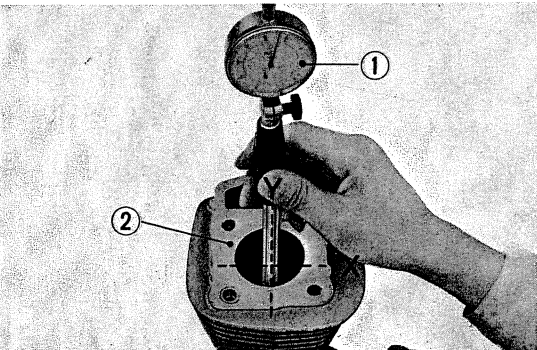

Fig. 38 Cylinder bore measurement
- 1) Inspect the condition of the cylinder bore. Measure diameter of the cylinder bore in both the X and Y directions and at the top, center and bottom of the cylinder. (Fig. 38)